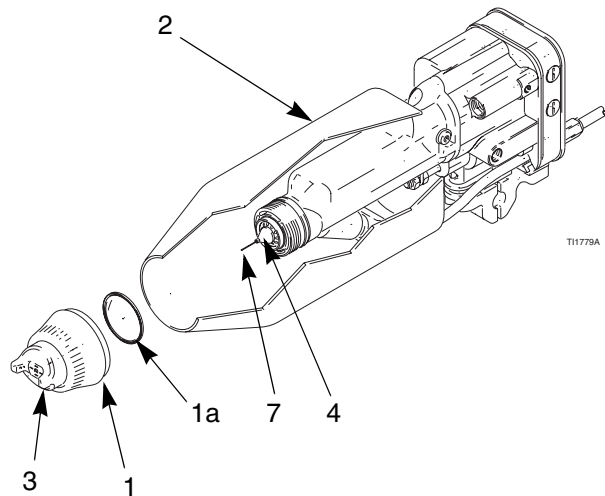

Fig. 15. Clean Air Cap and Fluid Nozzle
3. Remove the air cap assembly (1, 3) and shroud (2). See FIG. 15..
4. Wipe the fluid nozzle (4), shroud (2), and exterior of the gun clean with a cloth dampened in non-flammable solvent. Avoid getting any solvent into the air passages. Whenever possible, point the gun down when cleaning it.
5. If it appears that there is fluid inside the fluid nozzle (4) air passages, remove the gun from the line for servicing.
6. Clean the air cap (3) with the soft bristle brush and solvent or submerge the air cap in suitable solvent and wipe it clean.
7. Slide the shroud (2) onto the gun.
8. Carefully install the air cap (3). Be sure to insert the electrode (7) through the center hole of the air cap. Rotate the air cap to the desired position.
9. Make sure the u-cup (1a) is in place on the retaining ring (1). The lips must face forward. Tighten the retaining ring until the air cap is held firmly in place; you should not be able to rotate the air cap horns by hand.